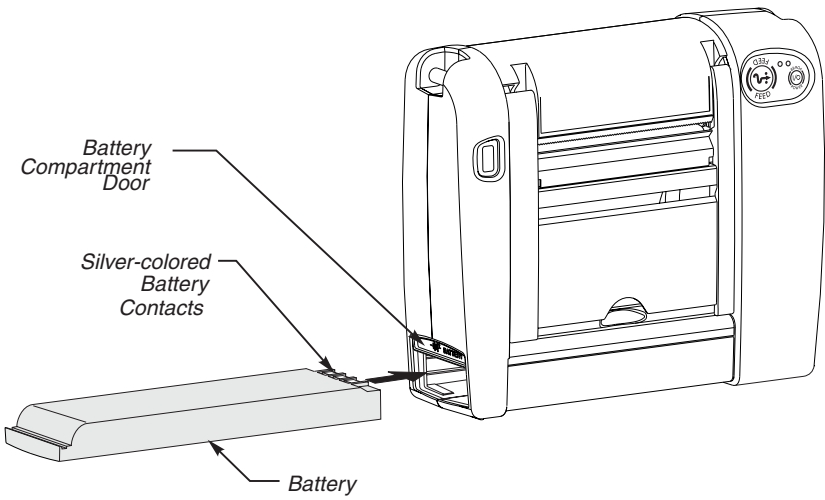

FIGURE 2
2. Insert the battery into the printer as shown in Figure 2, with the silver-colored battery contacts facing up.